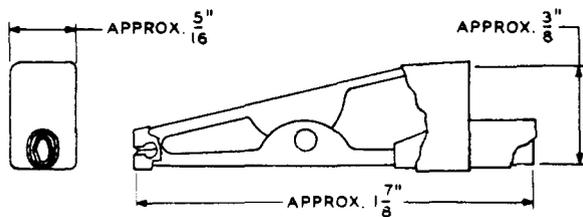

Fig. 16—KS-16336, L1 and L2, Test Clip
**2.25 KS-16336, L1 and L2:** The KS-16336, L1 and L2, test clips (Fig. 16) are used on the W20F cord for making connections to distributing frame terminal strips. Clips are to be soldered to cord conductors.